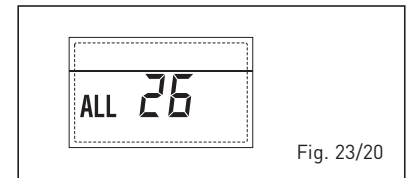

Fig. 23/20
- **ANOMALY SOLAR APPLICATION COMPATIBILITY “ALL 27” (fig. 23/21)**